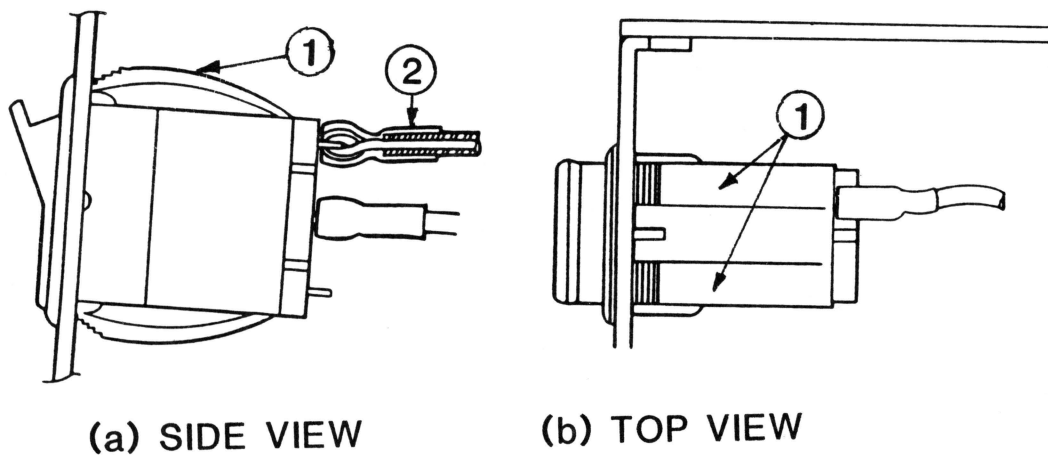

FIGURE 4
- a. If you have removed the cover, clip off the two locking tabs (Figure 4, #1) on top of the switch (use diagonal cutters); then push the switch out with your fingers. (If that doesn't work, push the lower locking tabs out of the way with a screwdriver and try pushing again.)